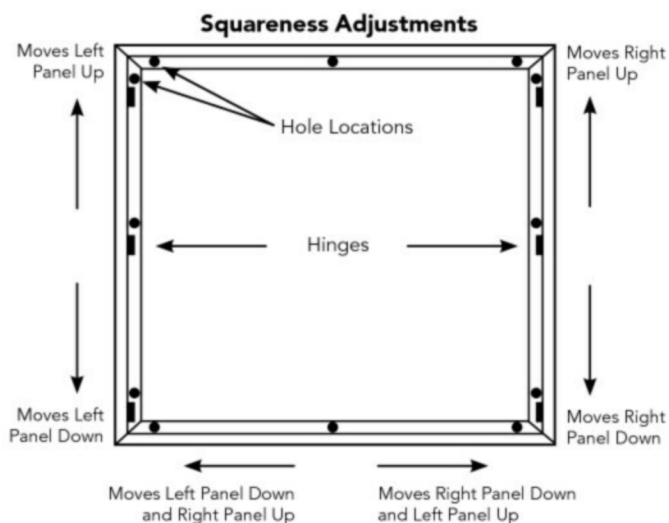

Fig. 4.1
4. Square or level panels to the opening (See Fig. 4.1)